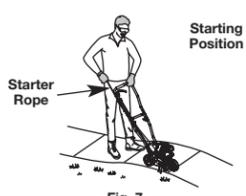

Fig. 7
WARNING: Avoid accidental starting. Make sure to be in the starting position when pulling the starter rope (Fig. 7). To avoid serious injury, the operator and unit must be in a stable position while starting.
4. Stand in the starting position (Fig. 7).
8. Stand in the starting position (Fig. 7). Tip the unit back so the blade does not touch the ground.